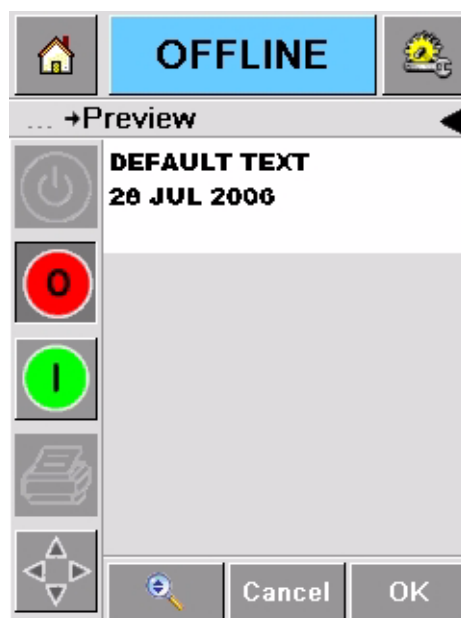

Figure 4-13: Preview Screen
- 8 Touch OK to go to the preview display (Figure 4-13).